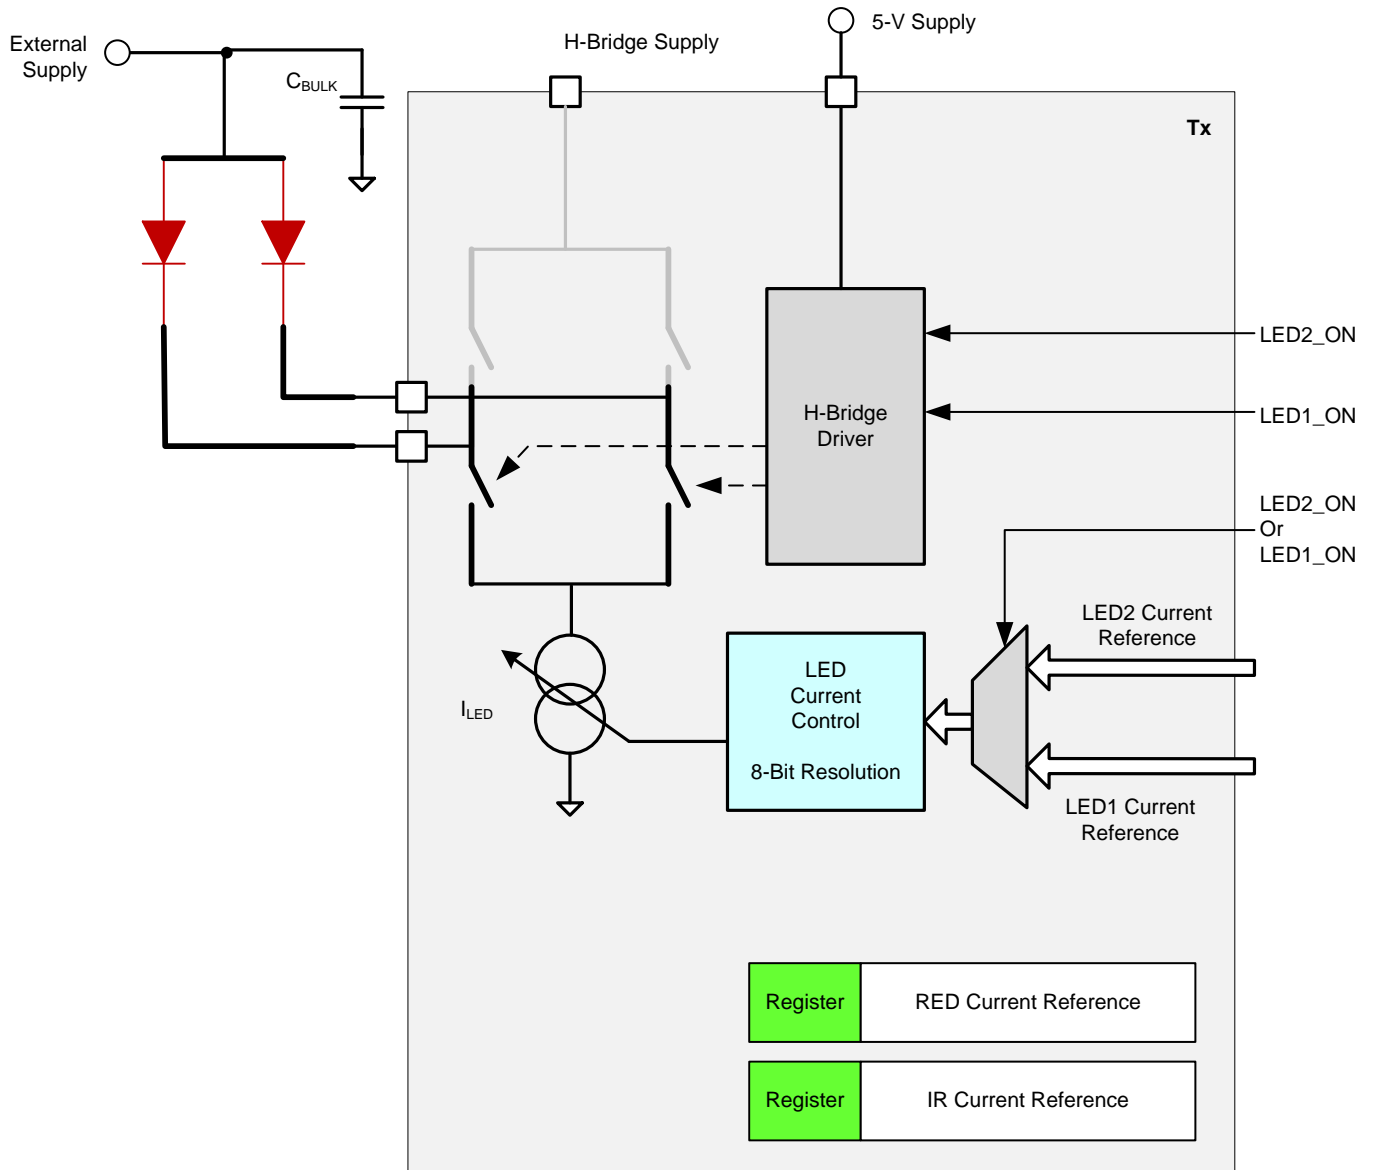

Figure 72. Transmit: Push-Pull LED Drive for Common Anode LED Configuration
- A push-pull drive for a three-terminal LED package; see Figure 72. The minimum external supply voltage = $2.0\text{ V} + (\text{maximum voltage drop across the LED})$. This value is the nominal value and depends on the registry LED current settings (refer to the LED_RANGE[1:0] bits in the LEDCNTRL register).